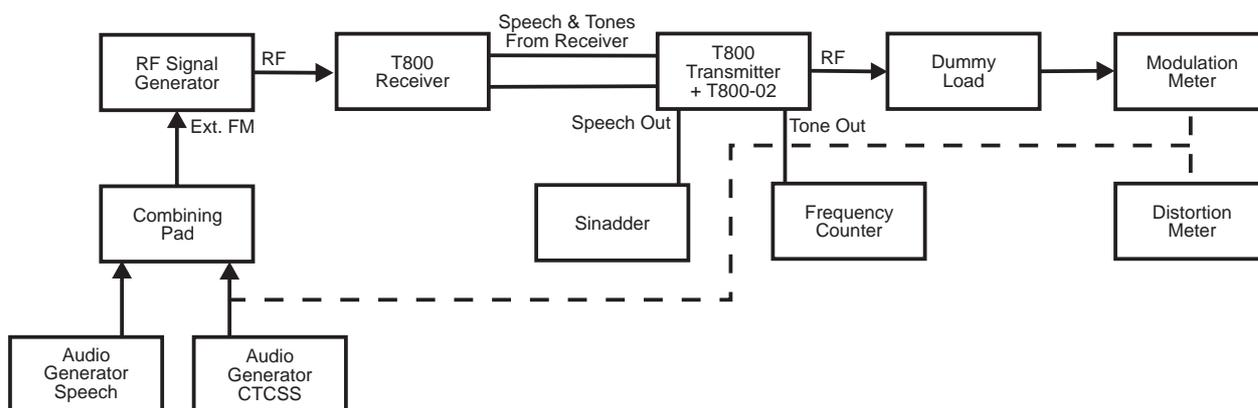

Figure 14 Transmitter Test Set-Up
2. Set up the test equipment as shown in Figure 14.